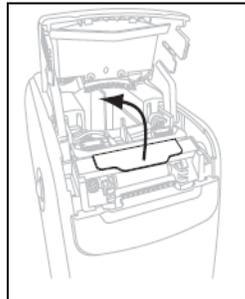

Figure 7
- 5 Refer to Figure 7. Grasp the metal lever plate on the printhead assembly and rotate upward to expose the printhead elements.